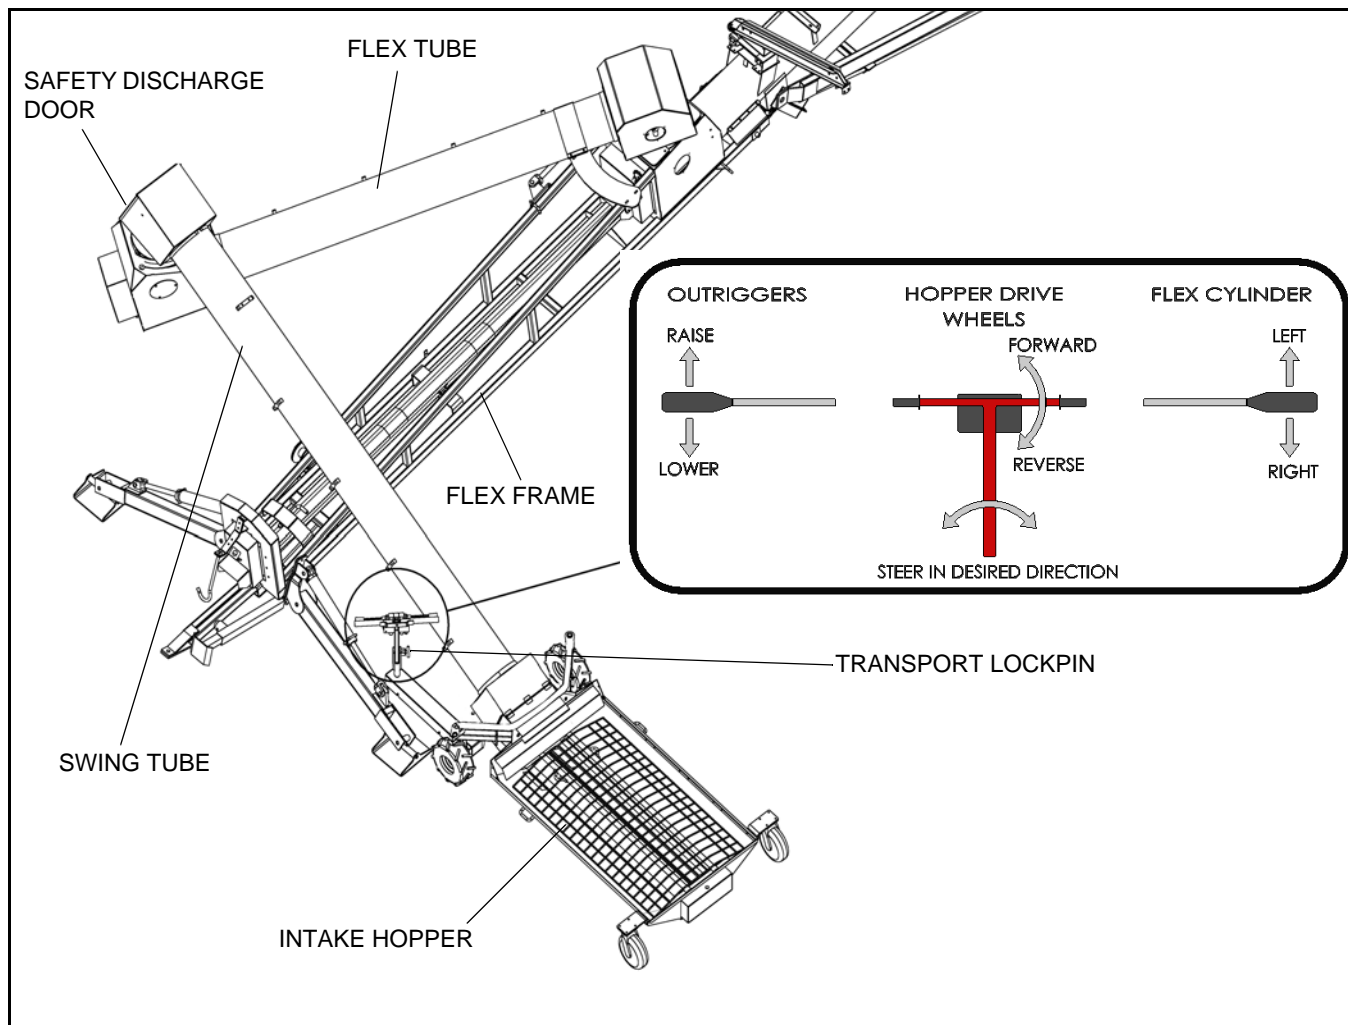

Figure 5.1
2. Using the hydraulic controls, position the intake hopper as shown in Figure 5.1.
6. Raise outriggers by first opening the ball valves located on outrigger legs and then engaging flex auger hydraulics (see Figure 5.1). Put locks in place and insert retaining pins (Figure 5.2).
10. Place the steering assembly in transport position. Pull out the lockpin, and fold the steering assembly down 90° (see Figure 5.1).